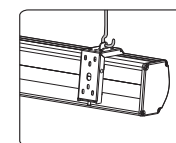

Figure 17
4. After finished step 2 and step 3, check whether wall bracket fix on the housing of screen tightly then you can hang the screen according to the figure 17.